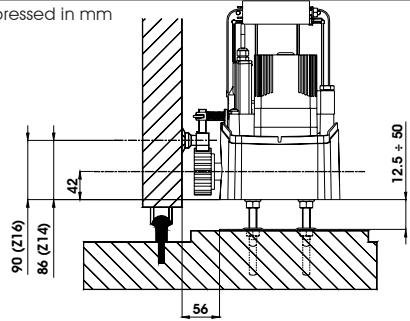

Fig.10
- Adjust the height of the gearmotor and the distance from the gate, referring to dimensions in Fig. 10.